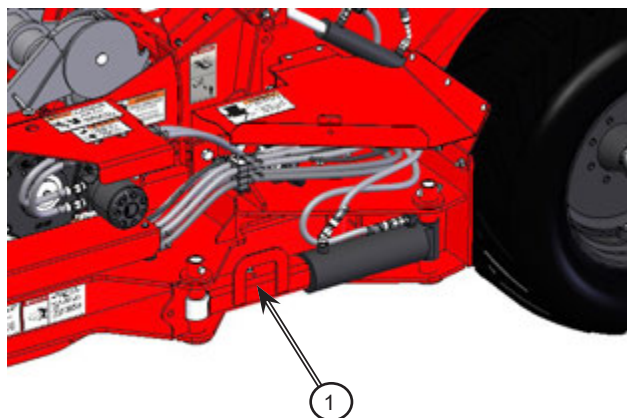

Figure 4.11: Install the hitch transport lock
6. Install the hitch lock (1) onto the hitch cylinder rod; see *Figure 4.11*.